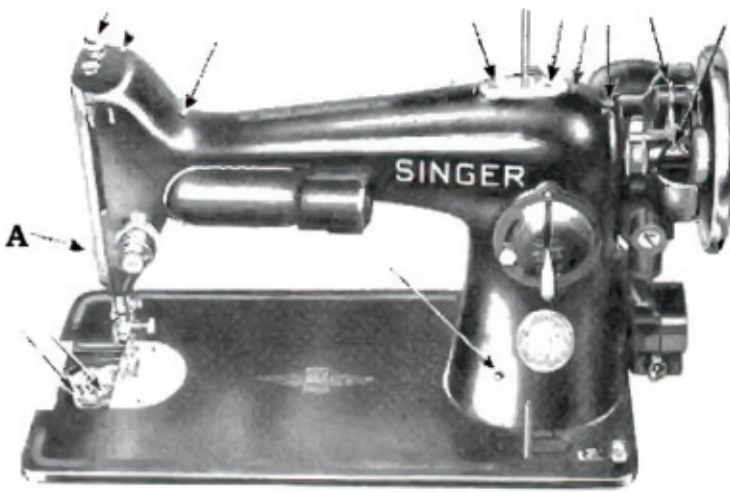
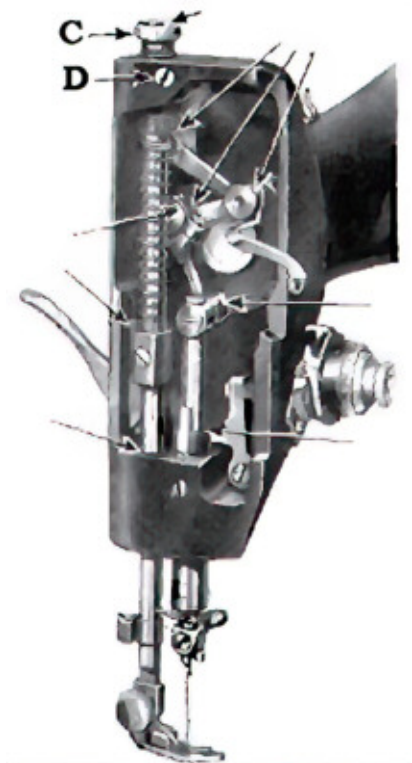

FIG. 63. FRONT VIEW, SHOWING OILING POINTS
FIG. 64 END VIEW,
applied at each of of the places indicated by arrows in Figs. 63 to 67, inclusive. One drop of oil at each oiling point is sufficient. Oil holes are provided for bearings which can not be directly reached.
Remove the thumb screw (A, Fig. 63) near the lower end of the face plate, and loosen the screw (D, Fig. 64) near the upper end of the face plate, then raise the face plate and slip it off over the head of the screw
(D). Apply one drop of oil at each of the places indicated by arrows in Fig. 64.